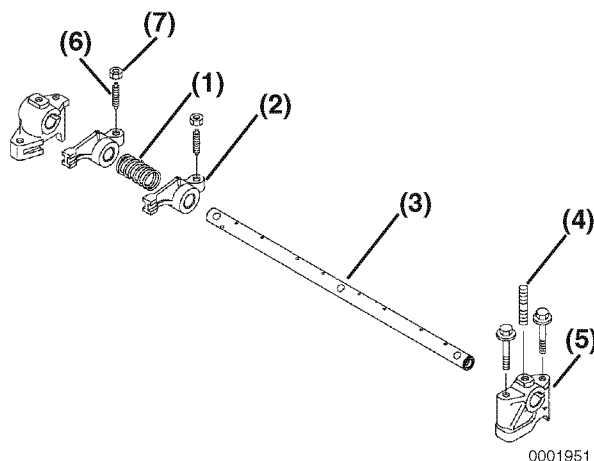

Figure 6-36
- Lubricate the rocker arm shaft. Slide the rocker arm supports (**Figure 6-36, (5)**), springs (**Figure 6-36, (1)**) and rocker arms (**Figure 6-36, (2)**) onto the shaft.
Note: To properly align the rocker arm shaft with the rocker arm shaft supports, first reinstall a rocker arm support (**Figure 6-36, (5)**) having a hole for the shaft alignment stud (**Figure 6-36, (4)**). Align the hole in the rocker arm shaft and the hole in the rocker arm support. Reinstall the alignment stud.
Note: **Figure 6-36** shows components for one cylinder. Components for all remaining cylinders are assembled in the same order.
- If removed, reinstall the valve adjusting screws (**Figure 6-36, (6)**) and the lock the nuts (**Figure 6-36, (7)**).